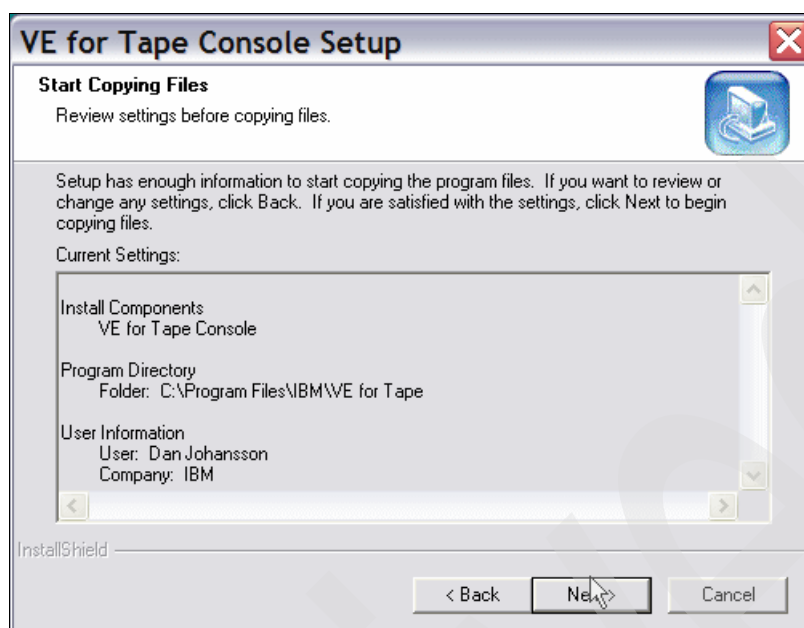

Figure 5-21 IBM Total Storage Virtualization Engine TS7510 Console: Start copying files
6. Start copying files by clicking **Next**, as shown in Figure 5-21.